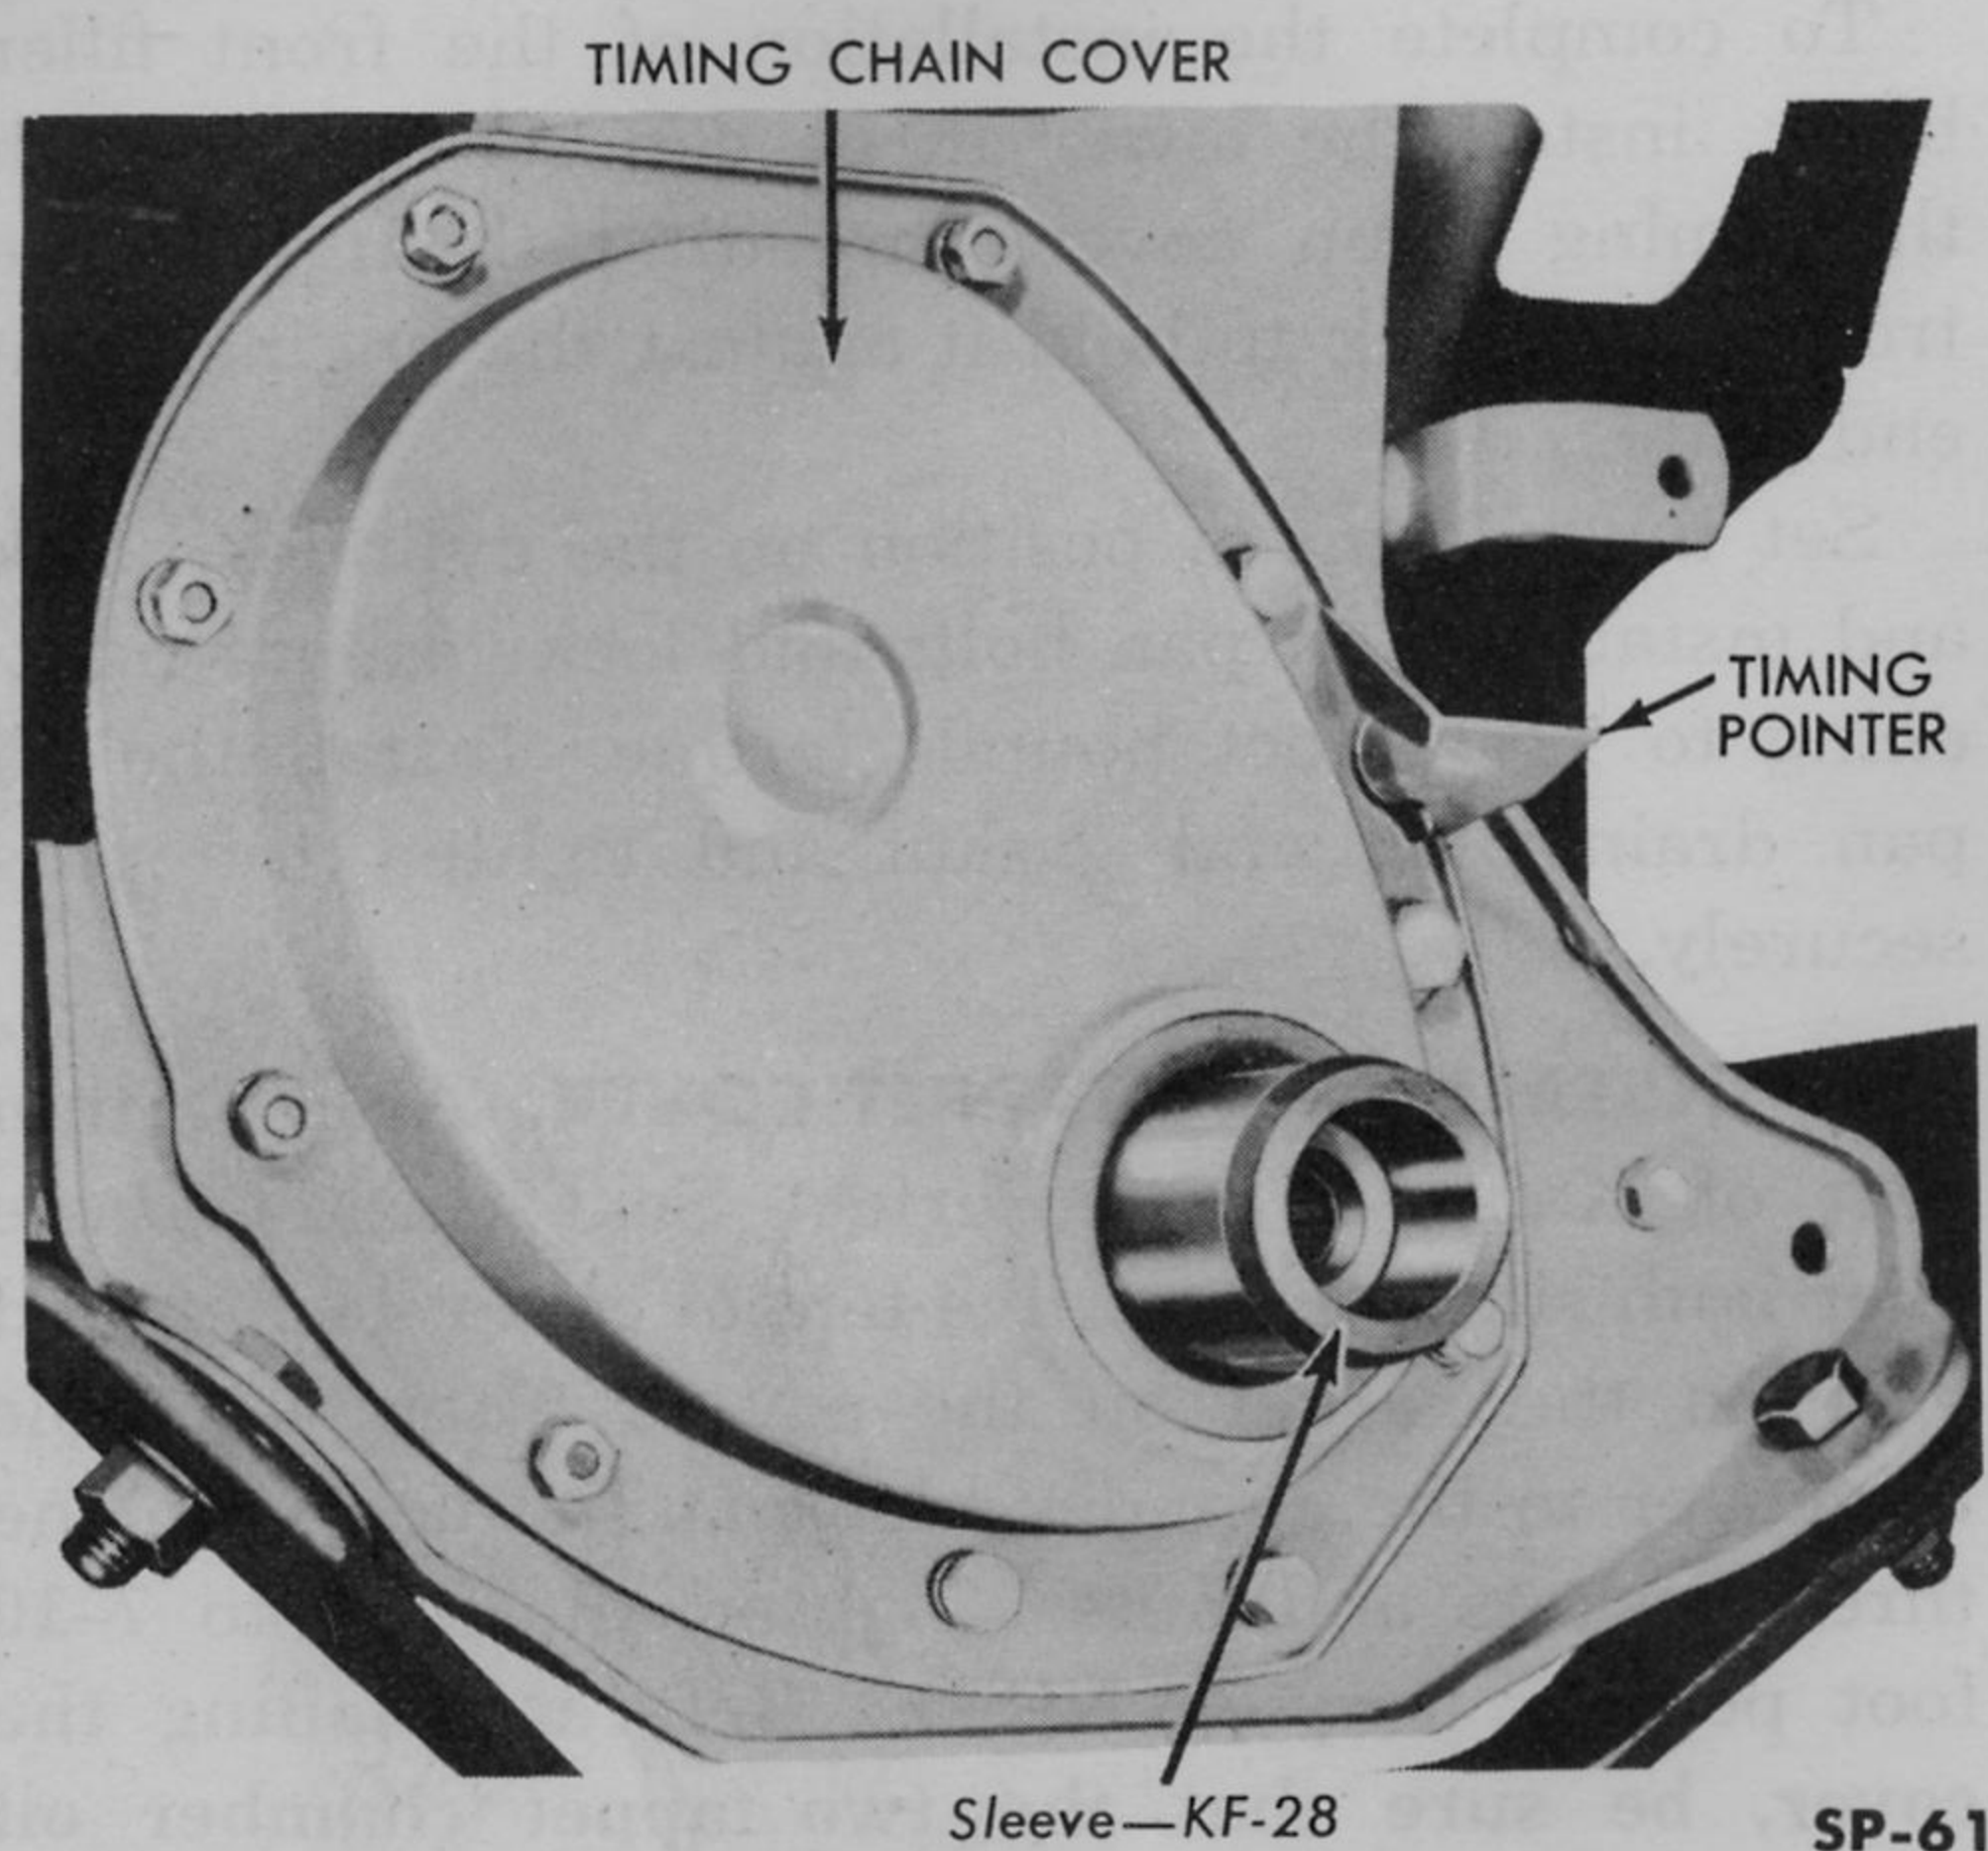

Fig. 93—Installing Timing Chain Cover and Pointer—Frazer
o. INSTALL TIMING CHAIN COVER. Apply a thin coat of Kaiser-Frazer Perfect Seal Gasket Paste to both sides of the timing chain cover gasket. Position the gasket on the timing chain cover. Place Timing Cover Oil Seal Installing Sleeve KF-28 on the front end of the crankshaft and carefully locate the timing chain cover on the front of the cylinder block, using the sleeve as a guide and to prevent damaging the seal. Attach the cover with the bolts, lockwashers and nuts and tighten to 12-15 foot pounds torque. Two of the cover bolts also mount the timing pointer bracket as shown in Fig. 93. Remove the Sleeve KF-28.